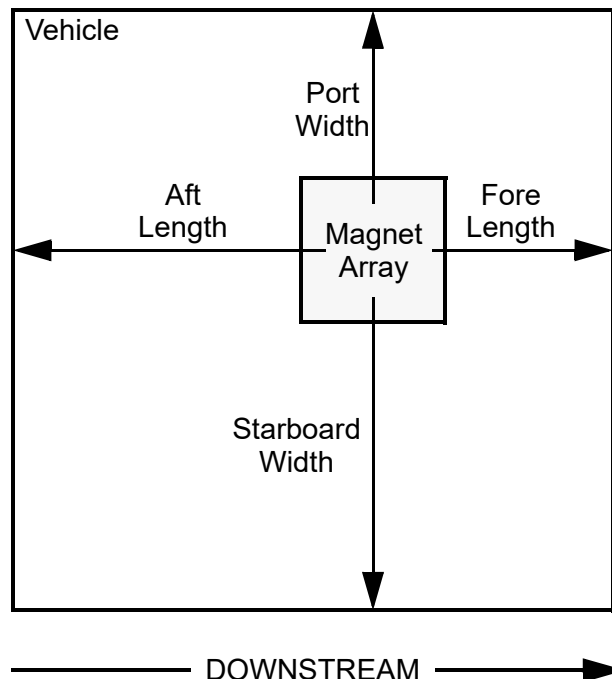

Figure 4-29: Rectangular Vehicle Sizing
- B. When the vehicle shape is set to **Rectangular**, configure the following items (see Figure 4-29 for definition of terms).